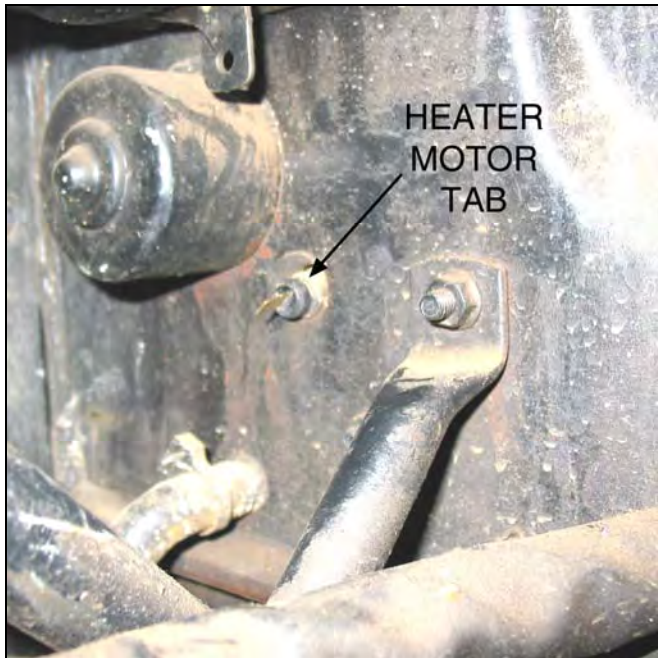

Figure 11.4.2 Heater Motor Tab
- 11.4.2 This tab can be found on the fire wall, under the battery tray. See **Figure 11.4.2**